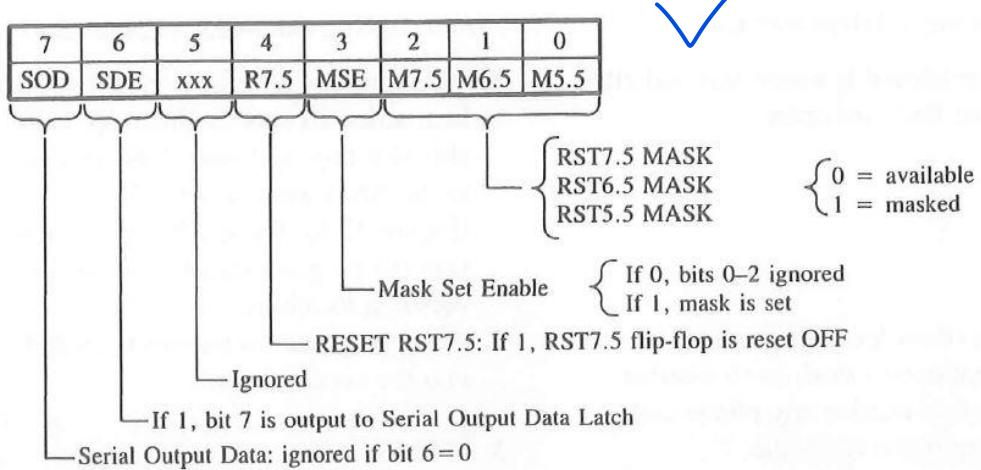

FIGURE 12.6
- The second function is to reset the RST 7.5 flip-flop (Figure 12.6). Bit D4 is additional control for RST 7.5. If D4=1, RST 7.5 is reset. This is used to override (or ignore) RST 7.5 without servicing it.